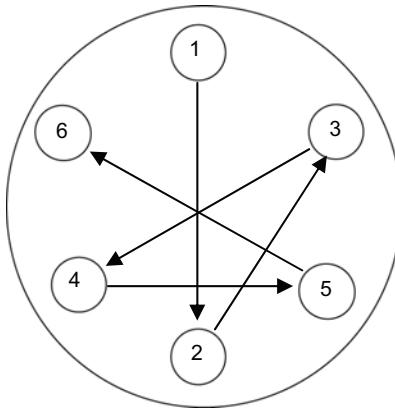

Figure 10. Second Stage Valve Head Cap Screw Torque Sequence.
- e. Apply corrosion preventive compound to the six socket head cap screws and secure the valve head and piston cylinder in place. Torque the cap screws to 206 in.-lbs in the sequence shown in Figure 10.